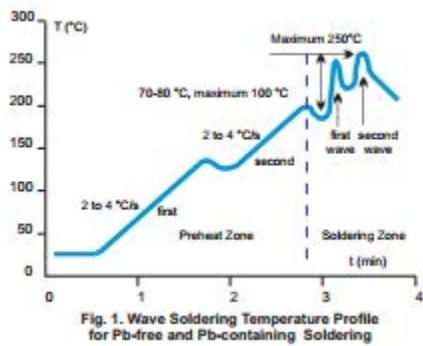

Fig. 1. Wave Soldering Temperature Profile for Pb-free and Pb-containing Soldering
**Thermal Shock** – to avoid the possibility of generating stresses in the varistor chip due to thermal shock, a preheat stage to within 100°C of the peak soldering process temperature is recommended. Additionally, SMD varistors should not be subjected to a temperature gradient greater than 4°C/second, with an ideal gradient being 2°C/second. Peak temperatures should be controlled. Wave and Reflow soldering conditions for SMD varistors with Pb-containing solders are shown in Fig. 1 and 2 respectively, while Wave and Reflow soldering conditions for SMD varistors with Pb-free solders are shown in Figures 1 and 3